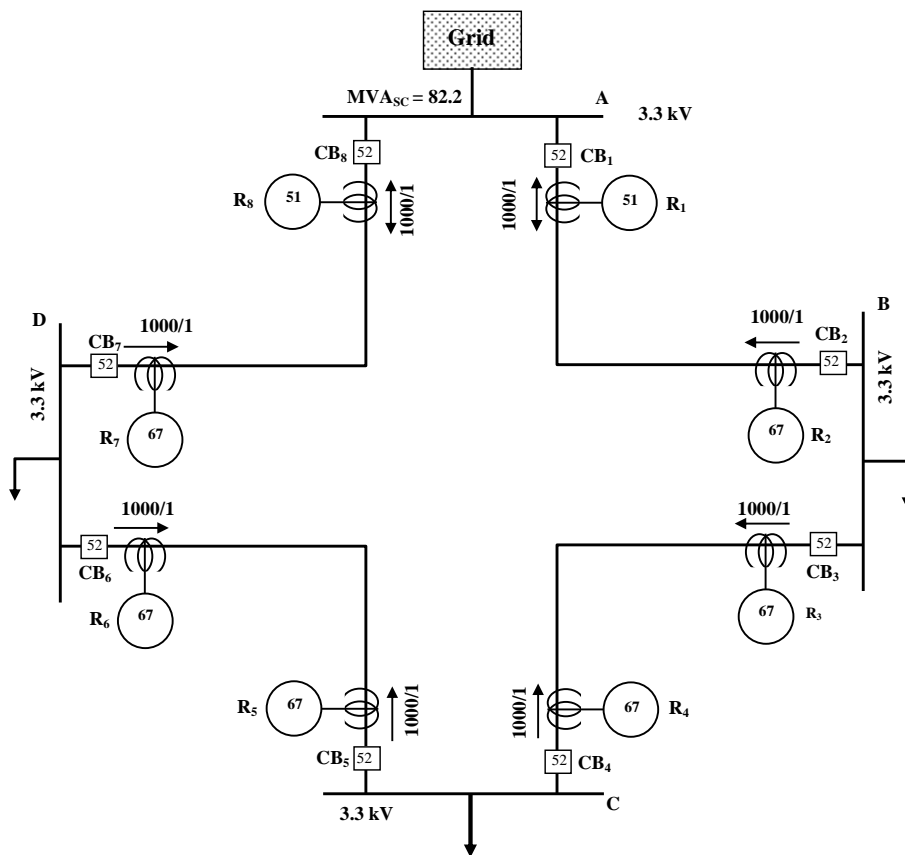

Fig. 4
Figure 4 shows a simple ring main, with a single infeed at bus **A** bus and three load busbars (**B**, **C** and **D**). The ring is protected with numerical (MiCOM P140 series) directional O/C relays **R2 – R7** and non-directional O/C relays **R1** and **R8** with standard inverse (SI) characteristics